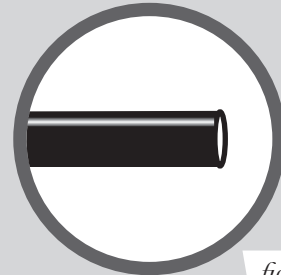

fig. 22
When cutting air lines, use a sharp knife or a hose cutter and make clean, square cuts (Fig. 22). Do not use scissors or wire cutters because these tools may deform the air line, causing it to leak around fittings. Do not cut the lines at an angle.
- a. Check the air line connection by deflating the spring and removing the line by pulling the collar against the fitting and pulling firmly on the air line. Trim 1" off the end of the air line. Be sure the cut is clean and square (see Fig. 22). Reinsert the air line into the push-to-connect fitting.